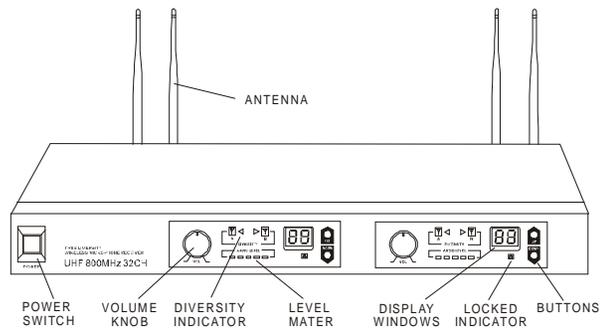

Fig.28 True diversity receiver 8240
- 4.8.1 True diversity receiver 8240 was shown in Fig.28. Take out the receiver and the receive antennas from packing box; place the receiver near the performance area (stage), mounting the antennas to the receiver. Point the antennas upward. Make sure, that the transmitter (microphone) will never get any closer to the receiver than 10 ft (3m), optimum separation is 16 ft (5m). There should always be a direct line of sight between the microphone and receiver. Place the receiver least 5 ft (1.5m) away from any big metal objects, walls, scaffolding, ceilings, etc.